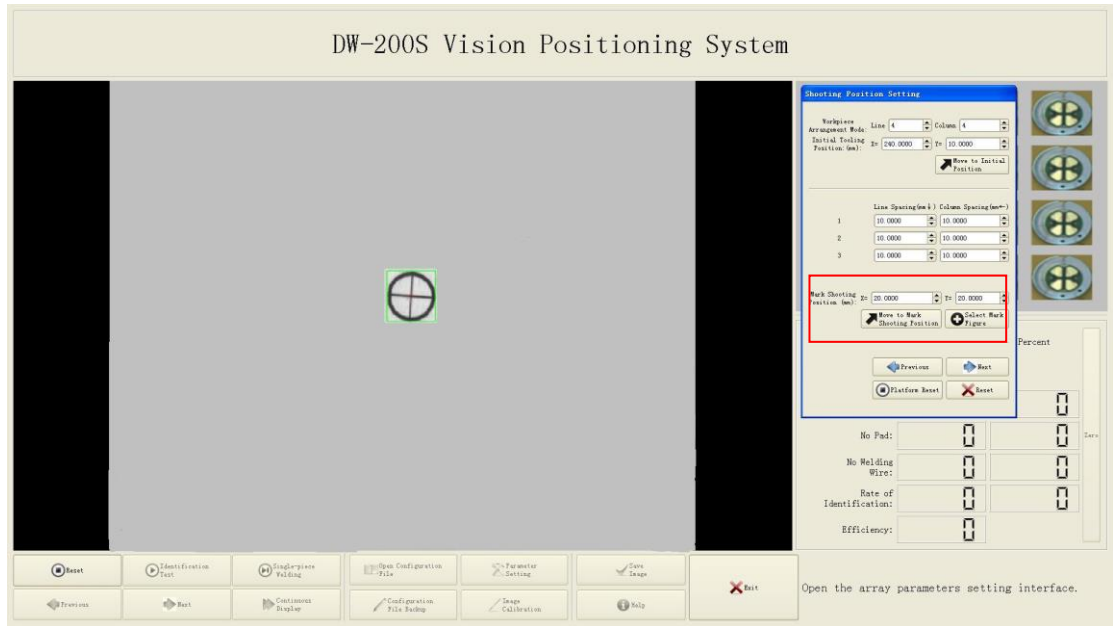

Fig. 5 Calibration Parameter Setting
- (1) Cut a piece of printed mark figure (see Appendix) into a size of 10mm\*10mm, and paste it onto a proper position of the tooling with double-sided adhesive (e.g. the center of tooling plate), **while guaranteeing that the mark is flush with the welding surface height;**
- (2) Double click the part arrangement mode picture at the upper right corner of the interface, adjust and set the “Shooting Base Point Coordinate” in the pop-up dialog box, and click the “Move to Shooting Base Point”, so that the mark figure is in the image as shown in Fig. 5.
- (3) Click the “Select Base Point Figure”, move the cursor into the image, and click the left mouse button in the central position of the cross mark; the software will automatically
extract the central position of the cross mark figure as shown in Fig. 5.